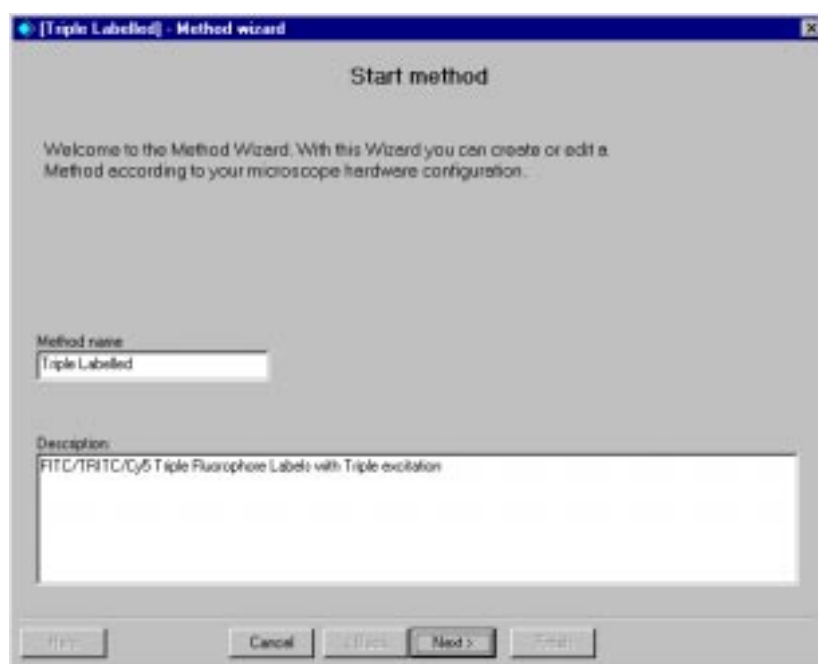

Figure 2 Start method window
1. In the 'Start method' window Fig. 2, enter a 'Method name' – in this case, "Triple Labelled". The name should be no longer than the length of the box into which it is written. Letters, numbers and hyphens may be used.